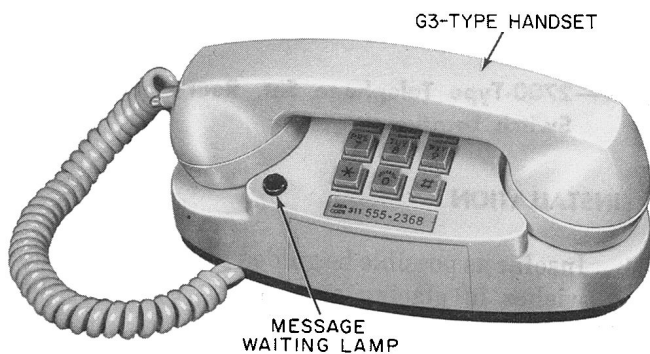

Fig. 1—2702D Telephone Set
2.01 The 2702D or 2702DM telephone set (Fig. 1 or 2) is equipped with a message waiting lamp and is intended for PBX use.
- **Message Waiting Lamp:** 2702D or DM set—visual signal, under control of a PBX attendant, indicates a message has been left with the operator (Fig. 1 or 2).